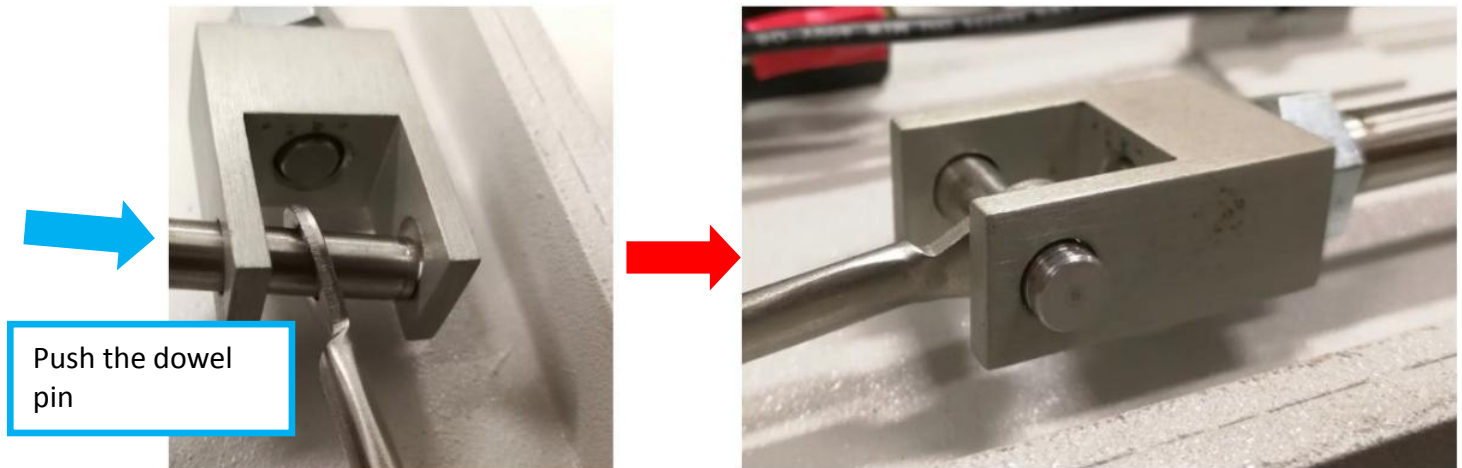

Figure 20
24. Push the dowel pin through Front Extension Block as below Figure 20